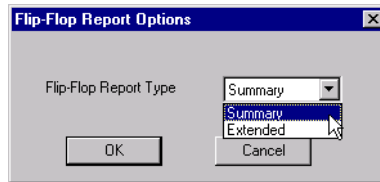

Figure 2-42. Flip-Flop Report Dialog Box
2. **Select Flip-Flop from the drop-down menu.** The Flip-Flop Report dialog box appears, as shown in Figure 2-42.